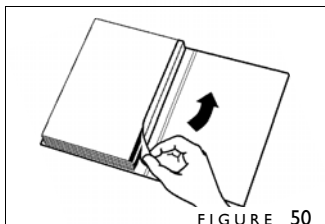

FIGURE 50
6. Release the clamp by bringing the Lever to the upright position. Remove the partially bound book and turn over. On the back side remove the remaining wide release paper (figure 50).